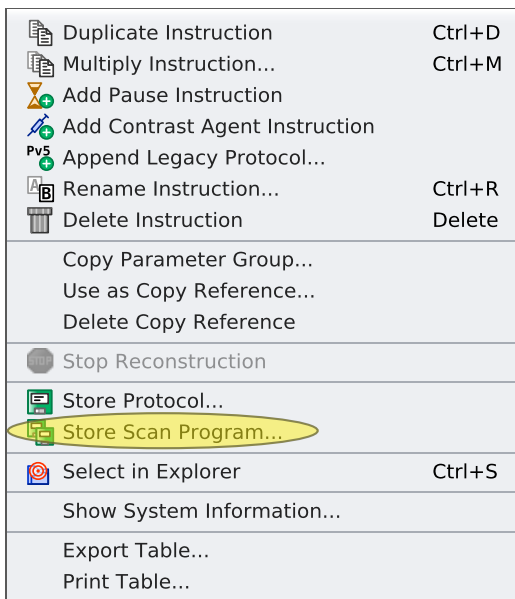

Figure 1.31: Context Menu Examination Card
2. Open the context menu (see Figure 1.31 [▶ 52]) and invoke **Store Scan Program....**